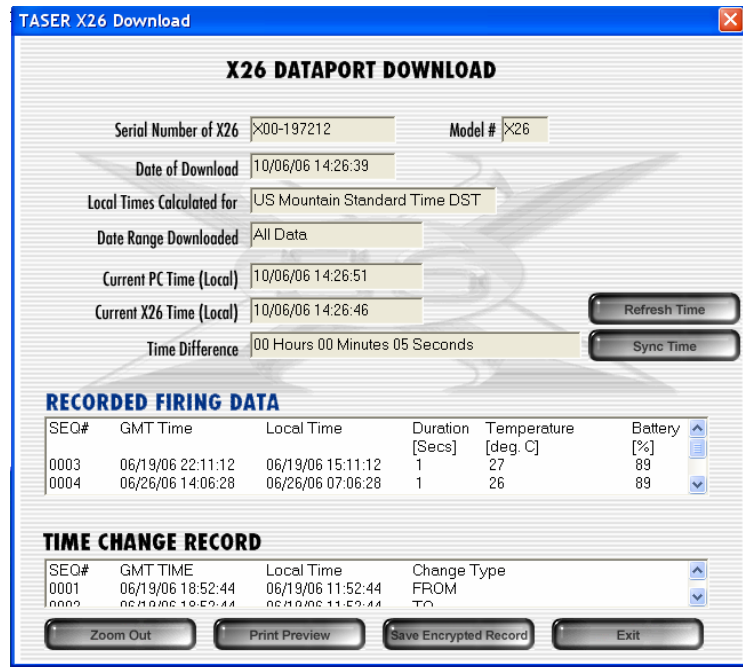

Figure 25
3. The remainder of the screens function the same as during a download (Figure 25).